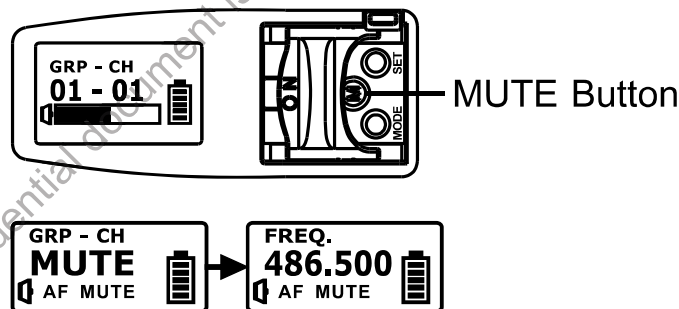

Fig. 17
- (1) ROM-ER → Channel wasn't programmed or internal data error.
- (2) ERROR1 → RF frequency targeting circuitry is failed.
- (3) NO----03 → The set frequency exceeds the upper band. The transmitter frequency will not be changed but it can be operated as long as the power switch is turned on again.
- (4) NO----04 → The set frequency exceeds the lower band. The transmitter frequency will not be changed but it can be operated as long as the power switch is turned on again.
(H) MUTE Button. Fig. 17:
- (1) Press MUTE button to enter MUTE status, the Audio Signal Level Bar ① shows AF MUTE and blinks, and all operations and the ACT function are still workable.
- (2) Press MUTE button again to unmute. AF MUTE will be disabled automatically when power off.
- (3) MUTE button is only workable under MAN (Manual Setting) mode.